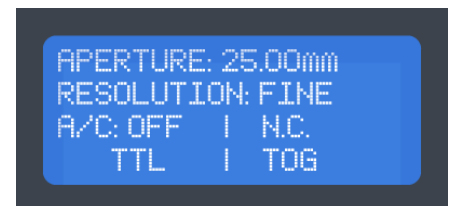

Fig. 8
1. If not already on the Iris Status Screen, press the “BACK / RETURN” (↩) button to return to it (it may need to be pressed multiple times if you are within a submenu (Fig. 8).